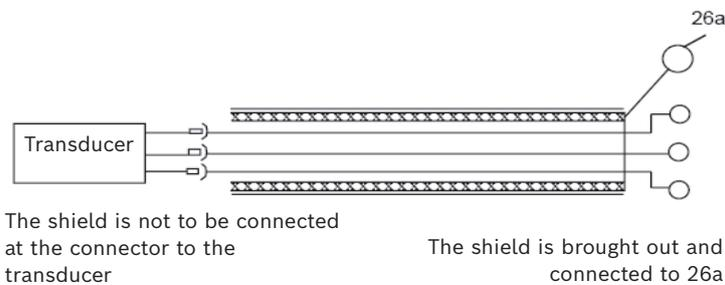

Fig. 22: Connection of the cable shield
- Cables of inductive position transducers, swivel angle sensors and of the pressure transducer must be shielded. Connect the shield only on one side to the control electronics (see Fig. 22). Never connect the shield to the valve, pump or pressure transducer.